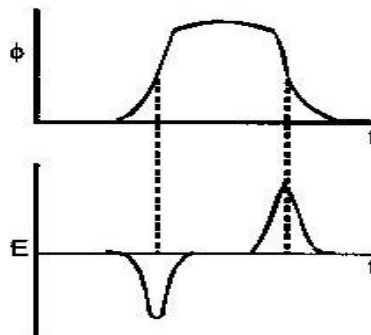
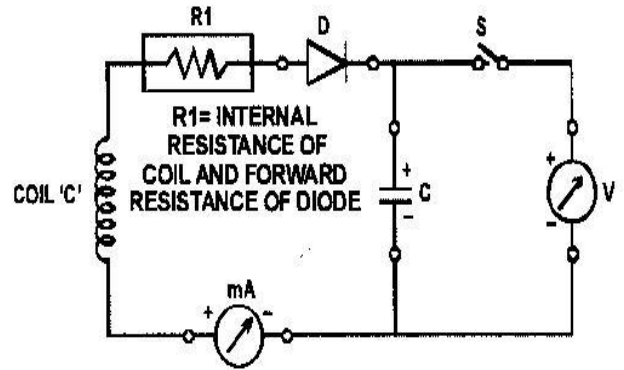
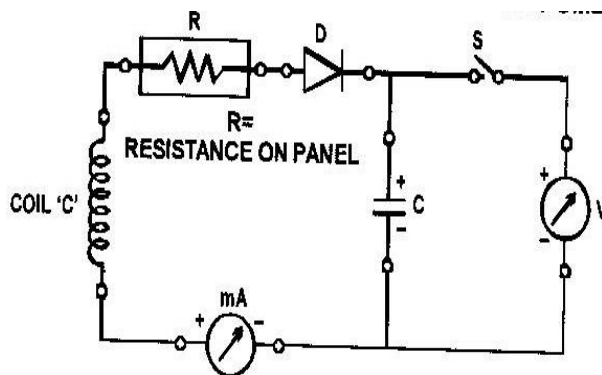

Fig. 3. Time Variation of Magnetic Flux Φ and emf E
Fig. 4. Circuit Diagram for measuring v_{max}
Fig. 6. Circuit Diagram for measuring Charge
The magnetic flux (fig.3.) through the coil (Φ) changes as the magnet NS passes through it also two pulses with opposite signs are generated in the coil for each swing.
1. Make the circuit as shown in Fig.4. Keep switch S in OFF position. $C \approx 100\mu\text{F}$ and $R1 \approx 500\Omega$. (here R1 represents the internal resistance of the coil and the forward resistance of the diode D.) At each swing the diode permits the capacitor to gain a charge once. The charging time RC being $50 \approx \text{ms.}$ and the pulse width τ (Fig.3) being a little smaller, the capacitor reaches the E_0 value in a few swings.
When the diode in the circuit of Fig.6 the capacitor C integrates one pulse of Fig.3 and does not receive the opposite pulse. The charge collected is $(1/R)$ times the $\int E dt$
- 1 Make the connections as Fig 6. keep RC large compared with width τ by connecting resistance R (given on the panel) in the circuit (Fig 3) which is approximately given by the magnet length divided by V_{max} . With a given release angle θ_0 measure V across the capacitor for N swings taking $n=1, 2, 3...$ by turns. (Each time hold the D by hand after n swings are completed and measure V)